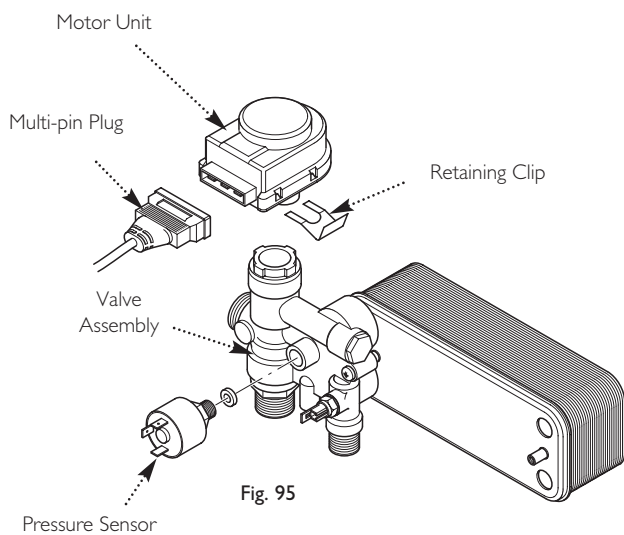

Fig. 95
14.19 Diverter Valve - Motor Unit & Assembly (Figs. 95 & 96)